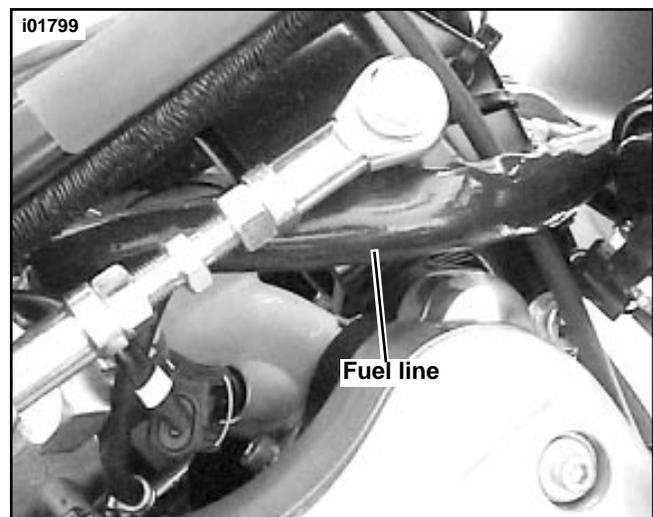

Figure 2. Fuel Line Routing
10. See Figure 2. Cut a piece of bulk fuel line (Part No. 63521-95) to 10-1/2 in. Attach fuel line, with a hose clamp, to the fuel rail and tighten clamp. Slide the sheathing onto the hose and route hose as shown.